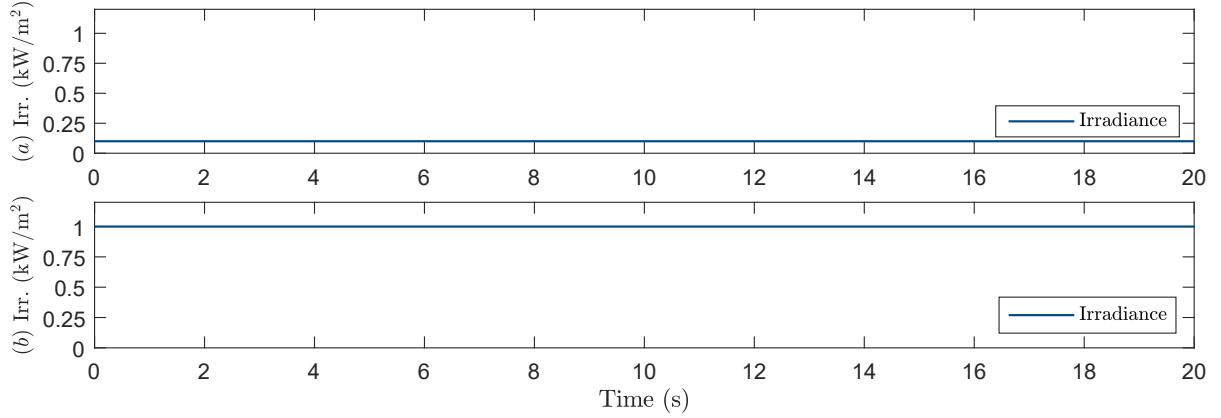

Fig. 7: Minimum and maximum irradiance generated from PV emulator.
- (a) **Test 0:** Steady-state inverter performance at MIN% (MIN W/m²). -See Fig. 7(a) in the test report-. this definition of MIN irradiance is quite ambiguous. Can we perform a low irradiance test instead, say 50 or 100 W/m².
- (b) **Test 1:** Steady-state inverter performance at 100% (1000 W/m²). -See Fig. 7(b) in the test report-